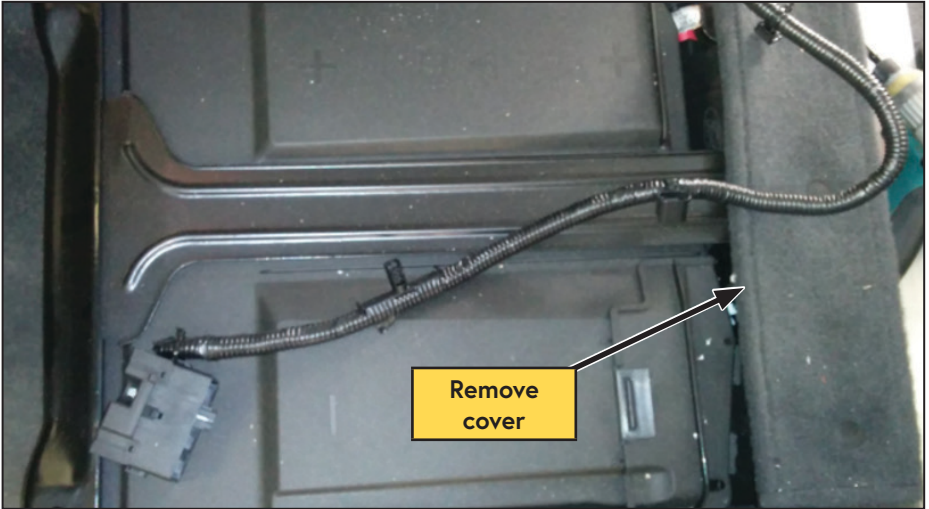

Figure 4 — Battery cover
- Remove the (x2) bolts underneath the piece of carpet at the rear of the battery cover retaining plate. Remove the metal bracket, then lift the plastic tabs on the rear of the battery cover to remove the battery cover (Figure 4).